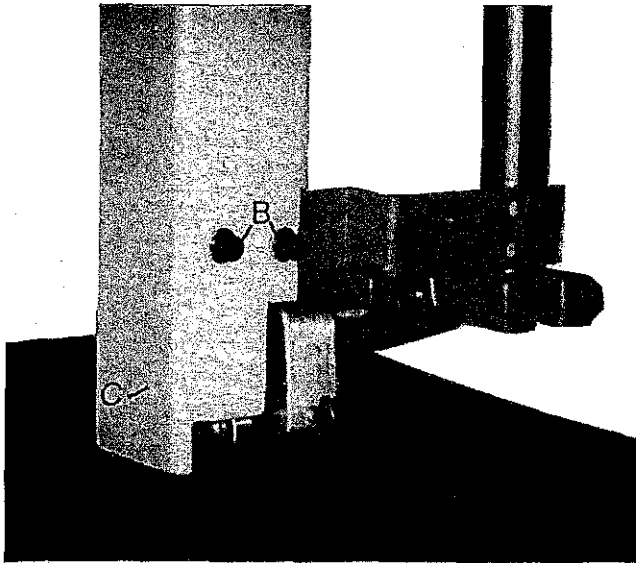

FIG 11
3. Check that scale indicates correct sawblade width. If scale is incorrect, tension sawblade to maximum tension by handwheel "A", FIG.11.
2. Loosen caphead screws "B", FIG11, and remove sawguard "C".
6. Refit sawguard "C", FIG.11 and secure with caphead "B".